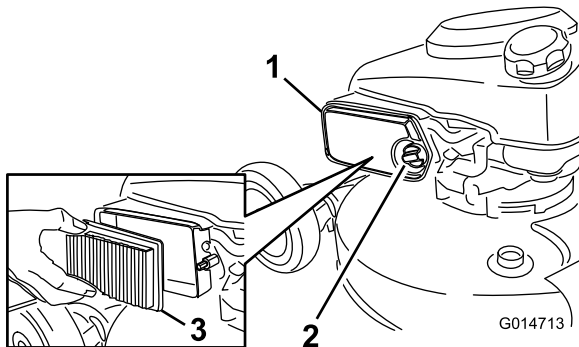

Figure 16
2. Unscrew and open the air-cleaner cover (Figure 16).